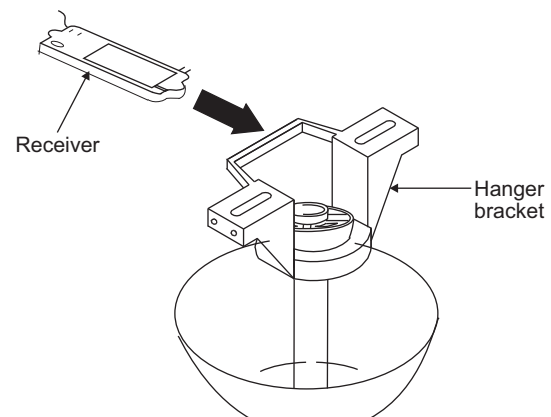

Figure 13
**Step 1.** (Figure 13) Insert the receiver into the mounting bracket with the flat side of the receiver facing the ceiling.